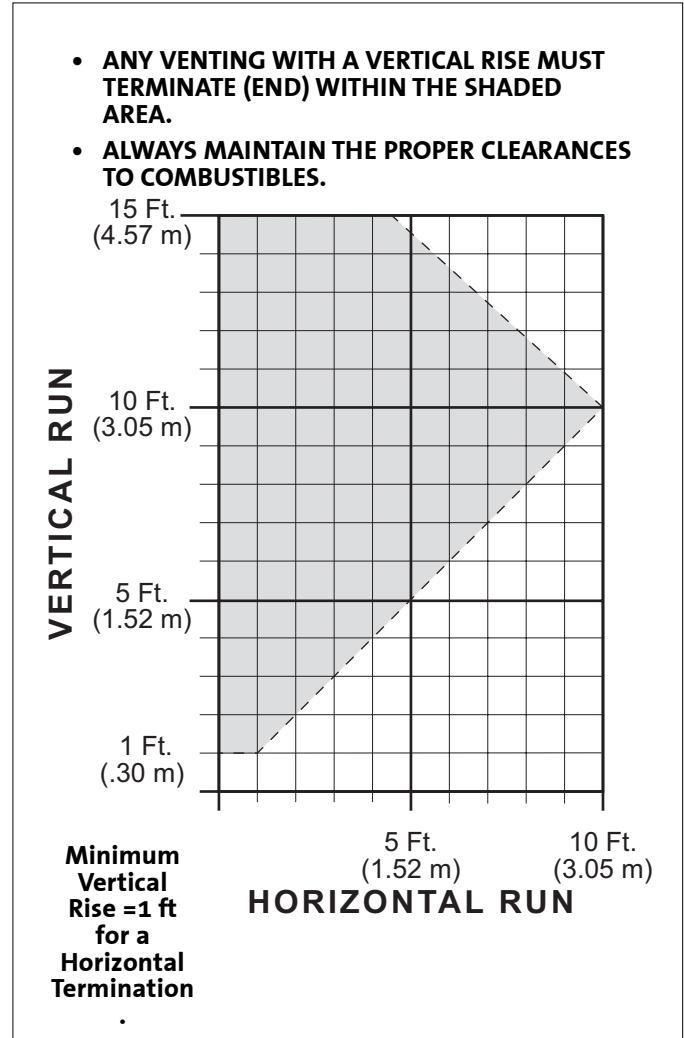

Figure 6. GF100 DV Nordic Vent Window - any termination must fall within the shaded area dimensions.
- The termination should fall within the shaded area of the grid depicted in fig. 6 below. Maximum Vertical should not exceed 15 ft. (4.57 m)